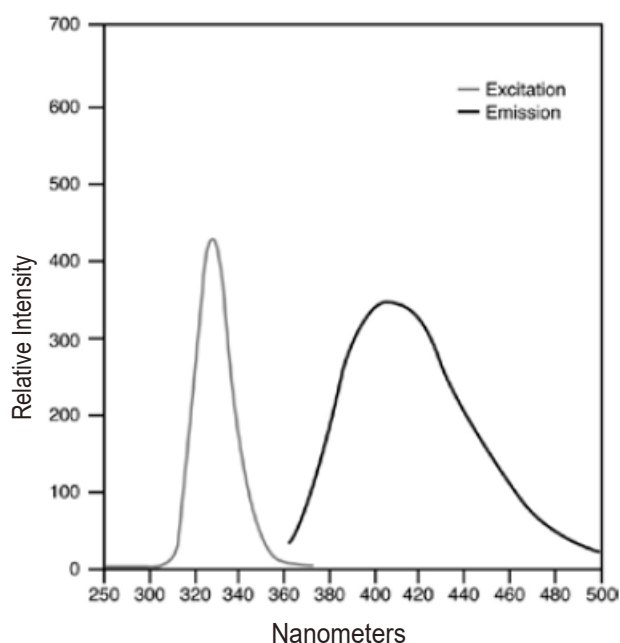

Figure 1 Image depicting the excitation and emission wavelengths
- QuantaBlu™ Fluorogenic Peroxidase Substrate can be detected using fluorometric methods with suitable excitation and emission settings (See figure 1 on page 3). Precise matching of excitation/emission maxima is not necessary; however, a non-overlapping filter set with a bandpass covering the excitation/emission spectra is required.